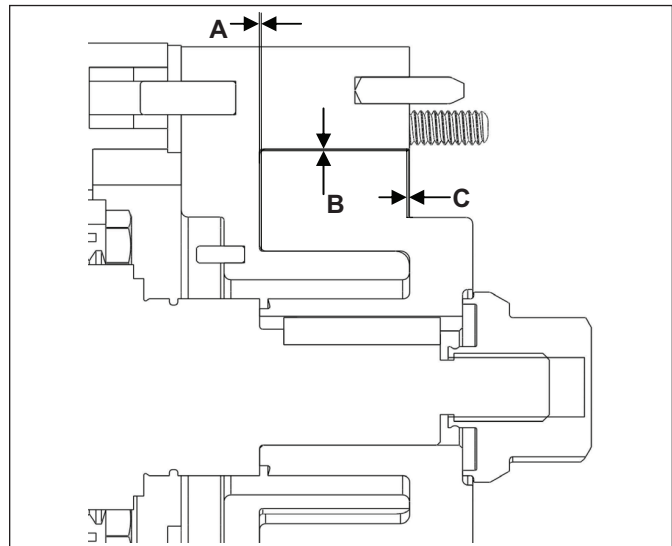
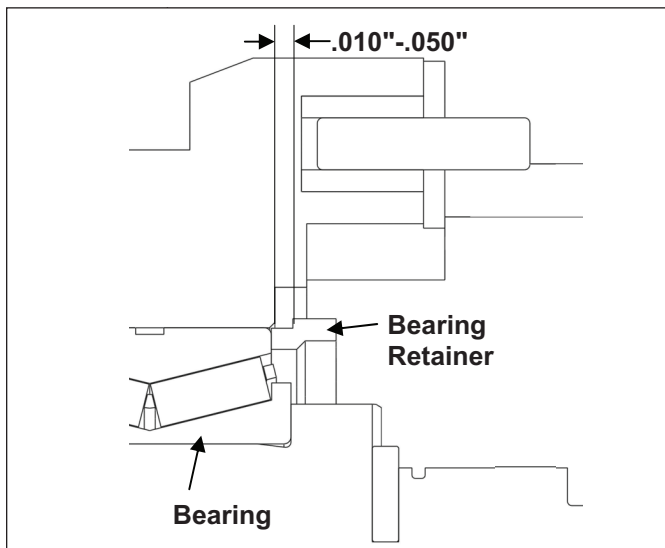

Figure 50. Important Clearances
Figure 49. Bearing Retainer Clearance
- Once the shafts are pressed into the gear case, install the bearing retainers to hold the shafts in place temporarily (do not install liquid sealant). Ensure there is proper clearance between the retainer and the gear case, as seen in *Figure 49*. Place the body on the gear case, making sure it is seated correctly. Assemble the rotors into the body and tighten down using the jam nuts. Measure dimensions A, B, and C seen in *Figure 50* and refer to *Table 10* on page 41 to verify the clearances. If clearances are not correct, the shafts must be removed and the shims will need to be adjusted. If the clearances are correct, remove the rotors and body.